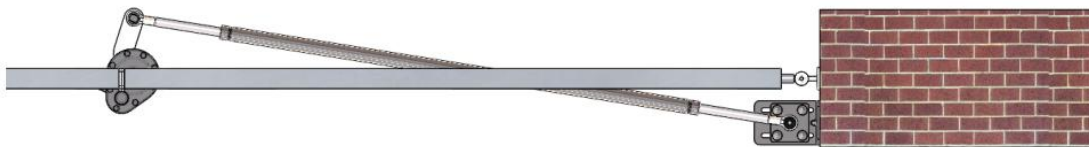

Fig 9
6. Test the folding effect of the door, which can be adjusted by adjusting the length of the connection rod, the fixing base, etc. See Fig 9